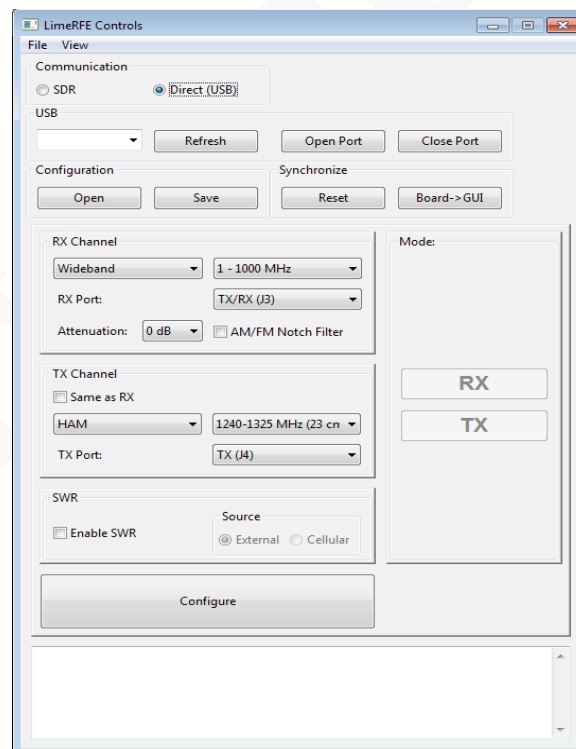

Figure 2: LimeRFE Controls window
- LimeRFE Controls window should appear, Figure 2. This window consists of several panels: Communication, Configuration, Synchronize, RX Channel, TX Channel, Mode, SWR (to display this pannel go to View/Power Meter) and Message Display panel.
- In *RX Channel* panel, in *Type* sub-panel there are three different options (in Figure 2 an option “Wideband” is shown) .
Depending of selected type, different Channel/Band options will appear (in Figure 2 an option “1 – 1000 MHz” is shown).
The third sub-panel shows selected input port for receiver mode (in Figure 2 an option “TX/RX (J3)” is shown). RX signal get out from the board at connector J1.
In the same panel, from *Attenuation* drop menu, attenuation level can be changed for signal in receive mode. Given attenuation values are: 0, 2, 4, 6, 8, 10, 12 and 14 dB (in Figure 2, 0 dB is selected attenuation level).
In the same panel, AM/FM Notch filter can be enabled or bypassed in check in box. (in Figure 2 this AM/FM Notch filter has been bypassed, box is not checked).
- In *TX Channel* panel, in *Type* sub-panel there are three different options (in Figure 2 an option “HAM” is shown) .
Depending of selected type, different Channel/Band options will appear (in Figure 2 an option “1240 – 1325 MHz” is shown).
The third sub-panel shows selected input port for receiver mode (in Figure 2 an option “TX (J4)” is shown). TX signal get in into the board at connector J2.